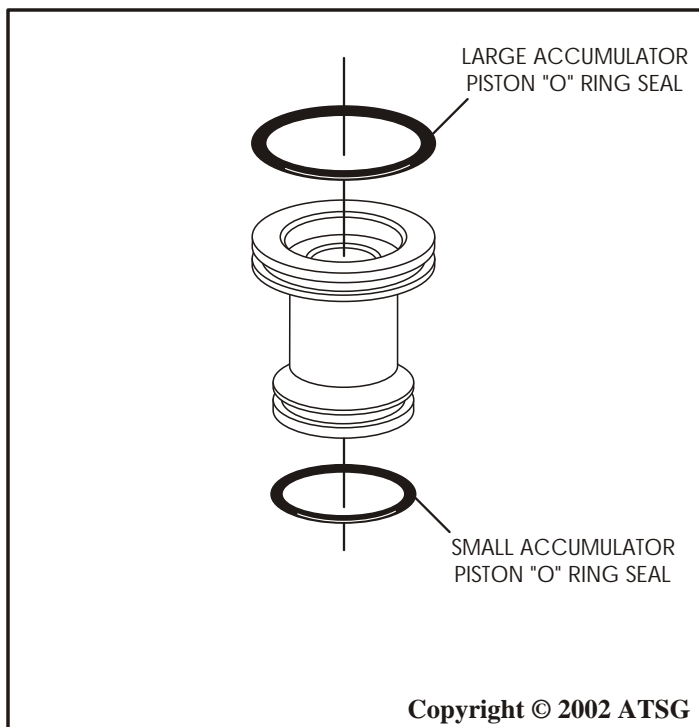

Figure 170
31. Install new "O" ring seals onto all four of the accumulator pistons, as shown in Figure 170.